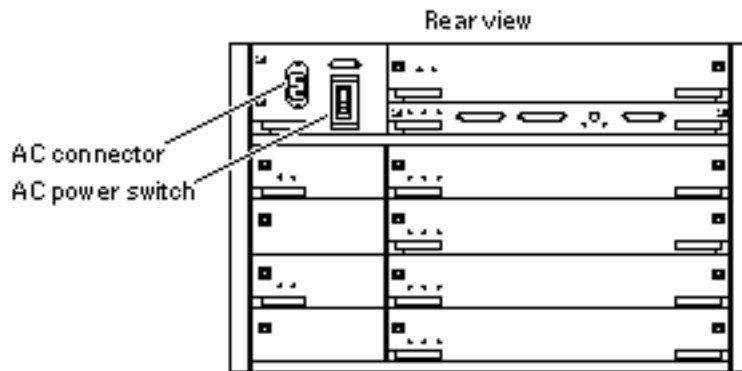

Figure 2-4 AC Power Switch and Power Receptacle
2. Turn the AC power switch (Figure 2-4) to Off.